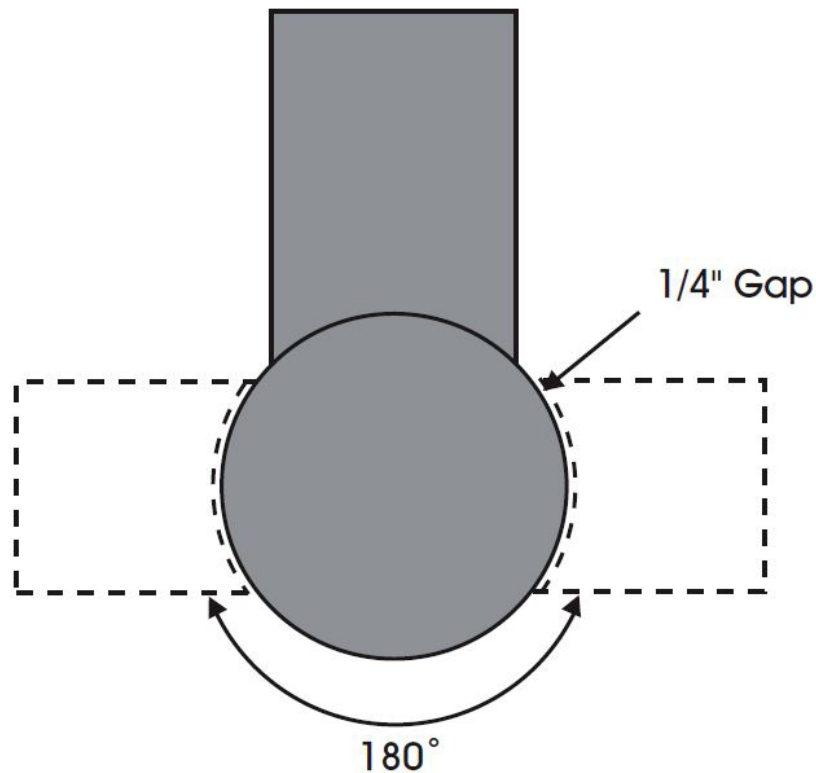

Figure 3
5. If the OPTIONAL ramp (Model NO: 241021) is purchased: Select a ramp position illustrated below. The ramp can be positioned anywhere in a 180 rotation around the front of the turntable. There should be a 1/4" gap between the turntable and the ramp. The ramp should be fully supported by the floor. (See Figure 3)